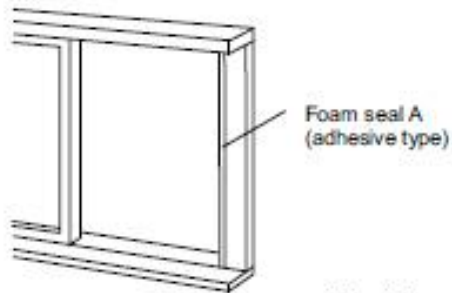

Fig. 13
- 1) Cut the foam seal (adhesive type) to the proper length and attach to the window frame. See Fig. 13.